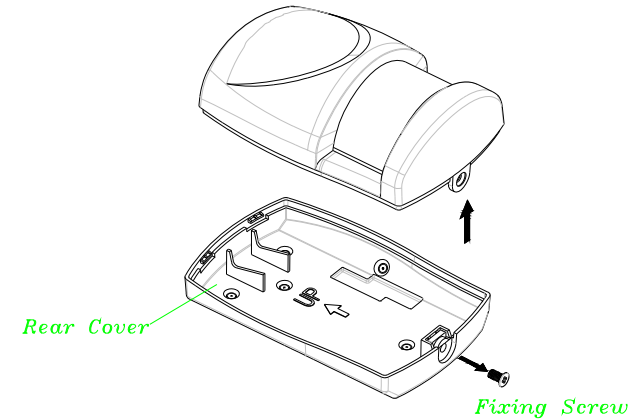

FIGURE 2
1. Undo and remove the fixing screw from the bottom edge of the detector. Carefully pull the bottom edge of the detector away from the rear cover and then slide down to release the top clips. (FIGURE 2)